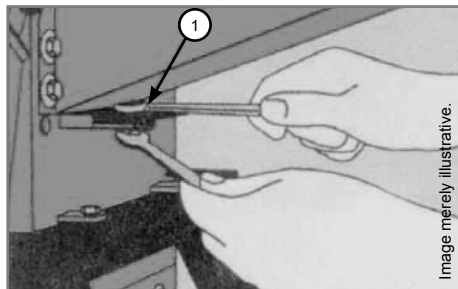
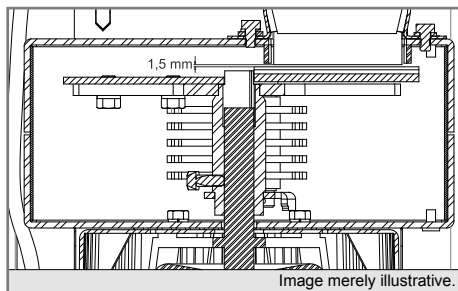

Fig. 7
Fig. 8
Periodic tightening of screws as well as the adjustment of the counter cutting blades are essential. The adjustment is done by loosening the hexagon nut (1) as in figure 7 and by displacing the counter cutting blade until the cutting blades pass at a distance of approximately 1.5 mm from the counter cutting blade (figure 8).